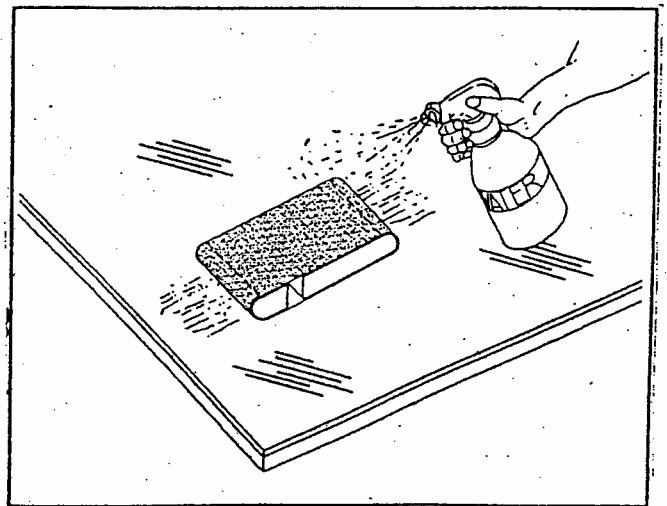

Figure 25
4. Wet sand scratches too deep for polishing by applying water and using a sanding disc to produce a smoother finish. **THE ACRYLIC OVERHEATS IF YOU ATTEMPT TO SAND WITHOUT WATER.** See Figure 25.